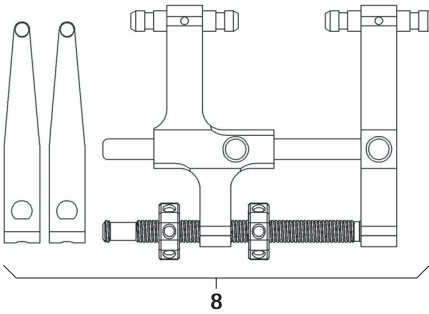

Fig. 13
- ▶ Assemble distractor **8** including its distractor arms, see Fig. 13.